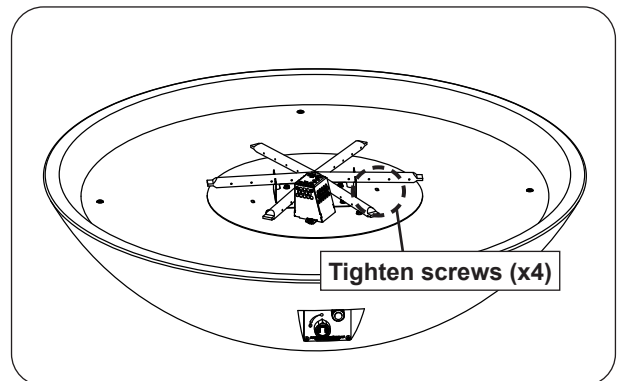

Fig. 34-3 Secure burner (if applicable)
2. Use a  $\frac{5}{16}$ " nut driver to fasten the burner to the base (see Fig. 34-3).